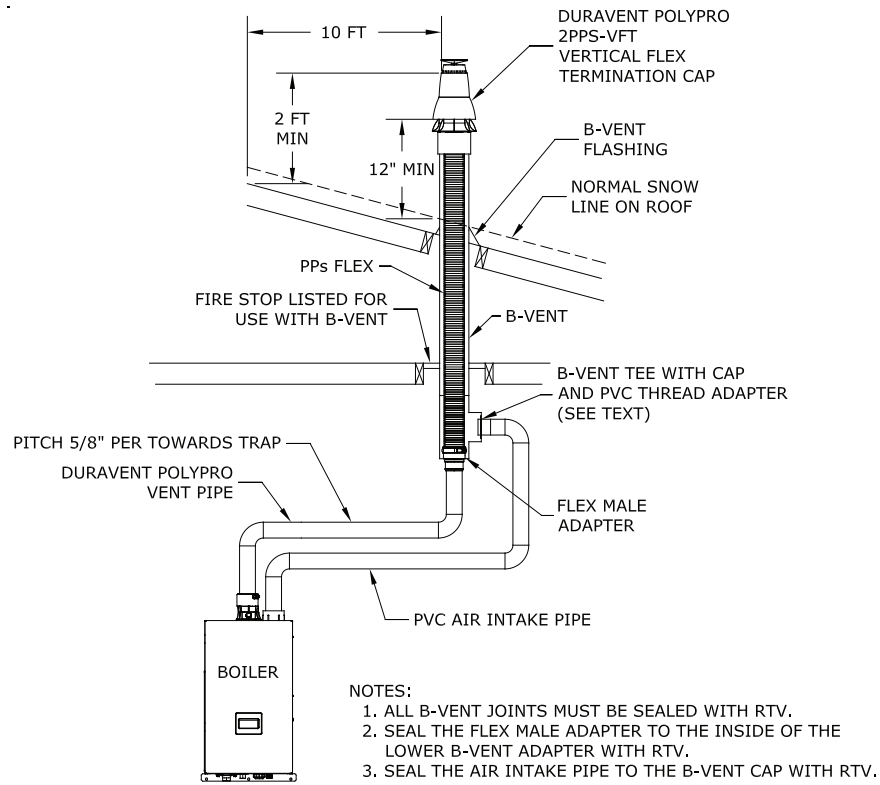

Figure 7.19: Duravent PolyPro B-Vent Air Chase System (Vent Options #18 & 19)
3. Requirements for B-Vent Air Chase Options – Observe the following additional requirements when using an abandoned B-vent chimney as an air chase as described in Options #18-21. Also refer to Figures 7.19 & 7.20.
*Example: A 100MBH model is to be installed as using Vent Option 18 as shown in Figure 7.19. The following components are used:*